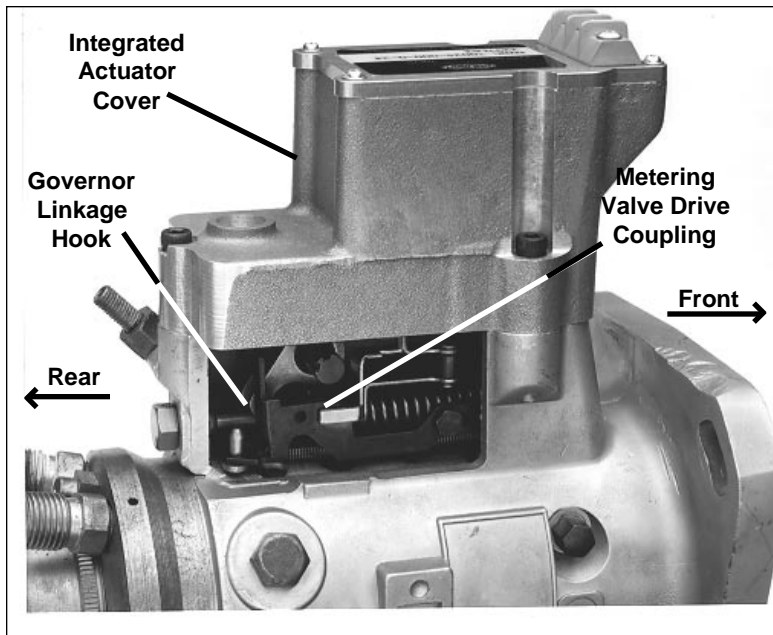

Figure 5
**2.3** Carefully slide the INTEGRATED ACTUATOR COVER toward the rear of the pump until the horseshoe portion of the METERING VALVE DRIVE COUPLING contacts the pump's GOVERNOR LINKAGE HOOK as shown in *Figure 5*. Once contact has been made, continue moving the INTEGRATED ACTUATOR COVER in the same direction until the mounting holes between the INTEGRATED ACTUATOR COVER and the PUMP BODY are aligned.